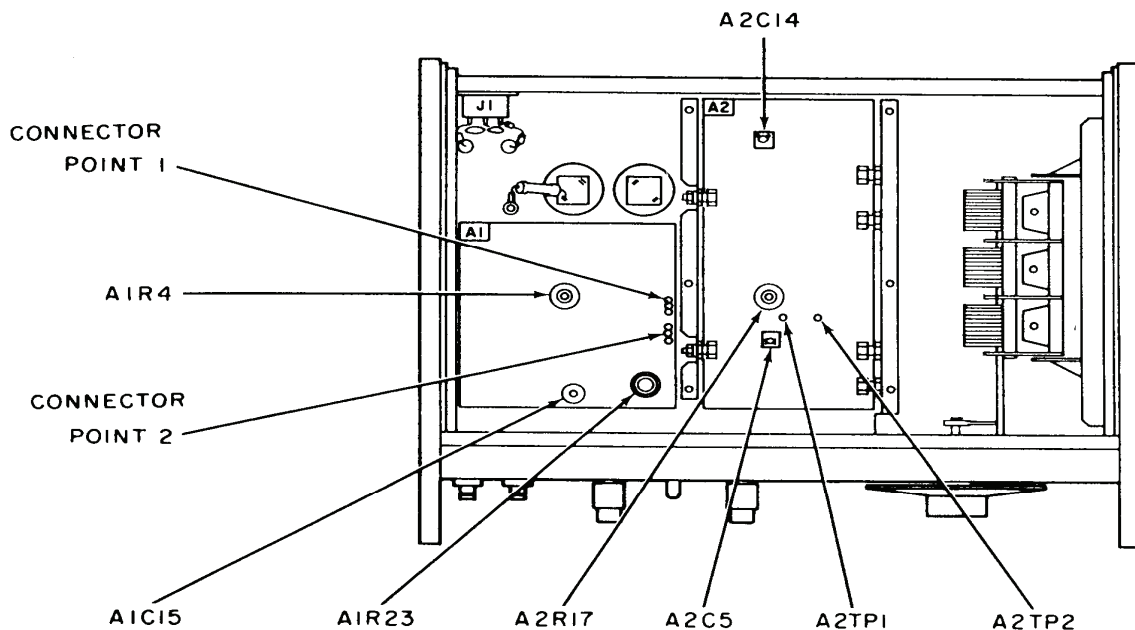
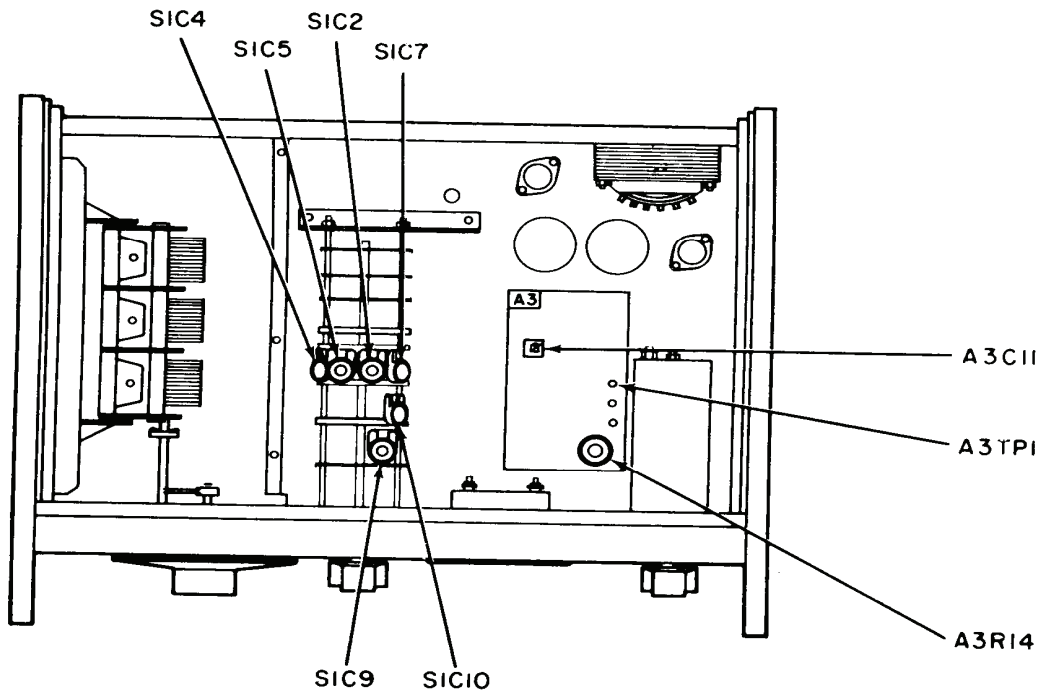

Figure 1. Test instrument - bottom view.
Figure 2. Test instrument - top view.
- (1) Remove TI bottom cover and oscillator shield.
- (2) Connect multimeter with a 1 k $\Omega$  resistor in series between A2TP1 (fig. 1) and chassis ground.
- (3) Connect audio analyzer to TI using a 50  $\Omega$  feedthrough termination.
- (4) Position controls as listed in (fig. 2) below.
- (5) Adjust **AMPLITUDE** controls for a 3.0 V indication on TI meter. Multimeter will indicate between 100 and 120 mV ac.
- (6) Adjust A2R17 (fig. 1) for minimum distortion (R).
- (7) Connect multimeter between A2TP2 (fig. 1) and chassis ground.
- (8) Connect frequency counter to TI, using a 50  $\Omega$  feedthrough termination.
- (9) Turn **FREQUENCY** dial to 10.
- (10) Adjust S1C2 and S1C7 (fig. 2) alternately until multimeter indicates -350 mV and frequency counter indicates 10.0 kHz (R).
- (11) Turn **FREQUENCY** dial to 1.
- (12) Readjust S1C2 and S1C7 (fig. 2) until multimeter indicates -350 mV and frequency counter indicates 1.00 kHz.
- (13) Turn **FREQUENCY** dial until frequency counter indicates 5.0 kHz.
- (14) Remove **FREQUENCY** dial knob and loosen four dial retaining screws. Slip **FREQUENCY** dial until 5 on dial is aligned with reference marker. Tighten retaining screws and reinstall **FREQUENCY** dial knob.
- (15) Repeat (9) through (14) above until TI is within tolerance in (10) and (12) above.
(17) Adjust S1C5 (fig. 2) and A2C5 (fig. 1) alternately until frequency counter indicates 10.0 MHz and multimeter indicates -370 mV (R).
If TI will not oscillate, adjust S1C10 (fig. 2) slightly.
(18) Turn **FREQUENCY** dial to 1.
(19) If necessary, readjust S1C5 (fig. 2) and A2C5 (fig. 1) alternately until frequency, counter indicates 1.0 MHz: and multimeter indicates -350 mV (R).
(20) Turn **FREQUENCY** dial to 5.
(21) Adjust S1C10 (fig. 2) until frequency counter indicates 5.0 MHz and multimeter indicates -310 mV (R).
(22) Repeat (16) through (21) above until no further adjustment is required.
(23) Set **FREQUENCY RANGE** switch to **X100K** and turn **FREQUENCY** dial to **10**.
(24) Adjust S1C4 and S1C9 (fig. 2) until frequency counter indicates 1.00 MHz and multimeter indicates -275 mV (R).
- (1) Adjust **AMPLITUDE** controls for a 3.00 V indication on multimeter.
- (2) Adjust A1R23 (fig. 1) for a 3 V indication on TI meter (R).
- (3) Adjust **OUTPUT AMPLITUDE** and **VERNIER** controls for a 3.075 V indication on multimeter.
- (4) Adjust A3R14 (fig. 2) for a +2.5 indication on TI meter percent scale (R).
- (1) Adjust A2C14 (fig. 1) fm best overall flatness between 1 and 10 MHz.
- (2) Set **FREQUENCY RANGE** switch to **X1M** and turn **FREQUENCY** dial to **10**.